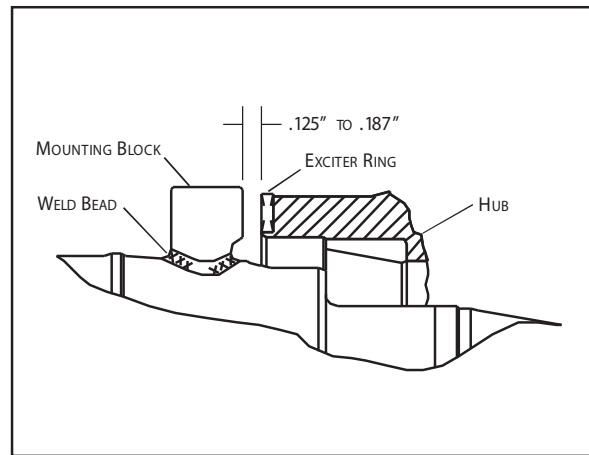

Figure 12
**NOTE:** The distance of the sensor block from the face of the tone ring "teeth" must be between .125 inch to .187 inch (see figure 12).